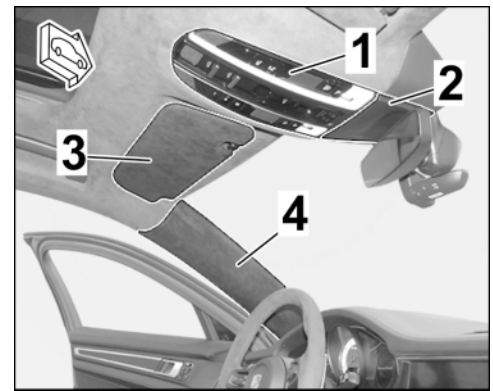

Figure 3
- 1.3 Expose front roof/rear-view mirror area (interior  $\Rightarrow$  *Figure 3*)